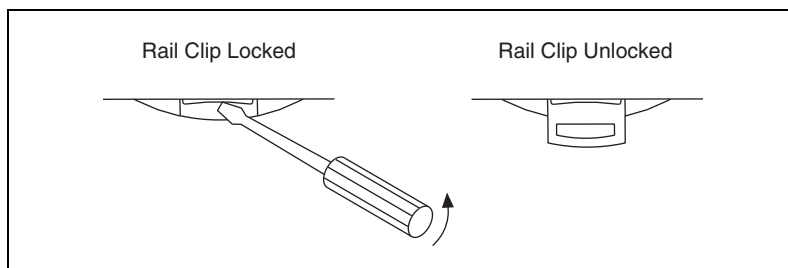

Figure 2-10. DIN Rail Clip
1. Use a flathead screwdriver to open the DIN rail clip to the unlocked position, as shown in Figure 2-10.
3. Slide the FBUS-HSE/H1 LD to the desired position along the DIN rail. After the FBUS-HSE/H1 LD is in position, lock it to the DIN rail by pushing the rail clip to the locked position, as shown in Figure 2-10.